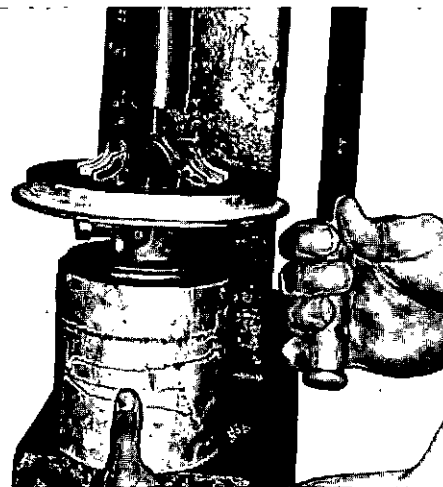

Fig. 5-7, (TA49). Pressing out the turbine wheel and shaft
8. Press the turbine wheel shaft assembly from the compressor wheel. Use an arbor press and support the assembly at the turbine housing mounting face, Fig. 5-7.